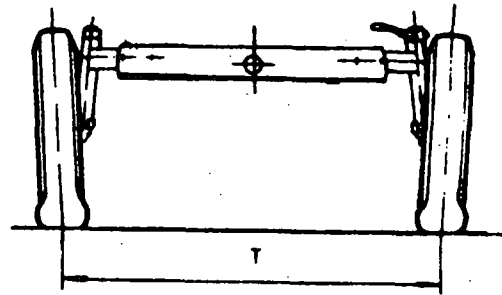

Fig. 1
*DEFINITION OF THE TRACK WIDTH.* It has been agreed that the track width is the distance measured between the centres of the wheels (Fig. 1).